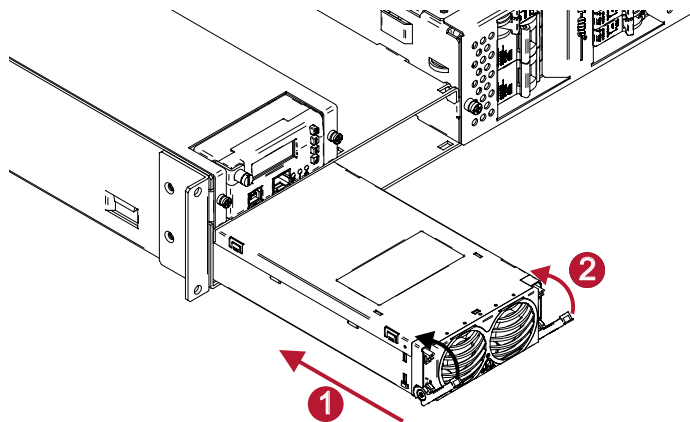

Figure 4-22 Rectifier Installation
2. Slide the rectifier module into the slot until it contacts the interface connection at the rear of the shelf, Figure 4-22 #1.
3. Fully insert the rectifier by pushing the handle towards the shelf. The rectifier handle will rise up and lock the rectifier into the position, Figure 4-22 #2.